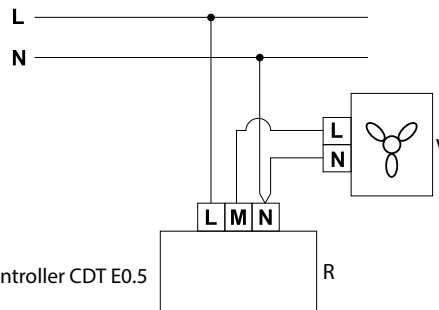

Fig. 3
- Remove the control knob of the controller (1).
- Unscrew the nut (2) fastening the decorative cover and remove the decorative cover (3).
- Unscrew the screws (4) fastening the controller to the mounting box, and remove the controller (5).
- Lead the connecting wires into the mounting box (6).
- Connect the wires to the terminal block located on the controller board according to the wiring diagram (Fig. 3) and the label on the terminal block.